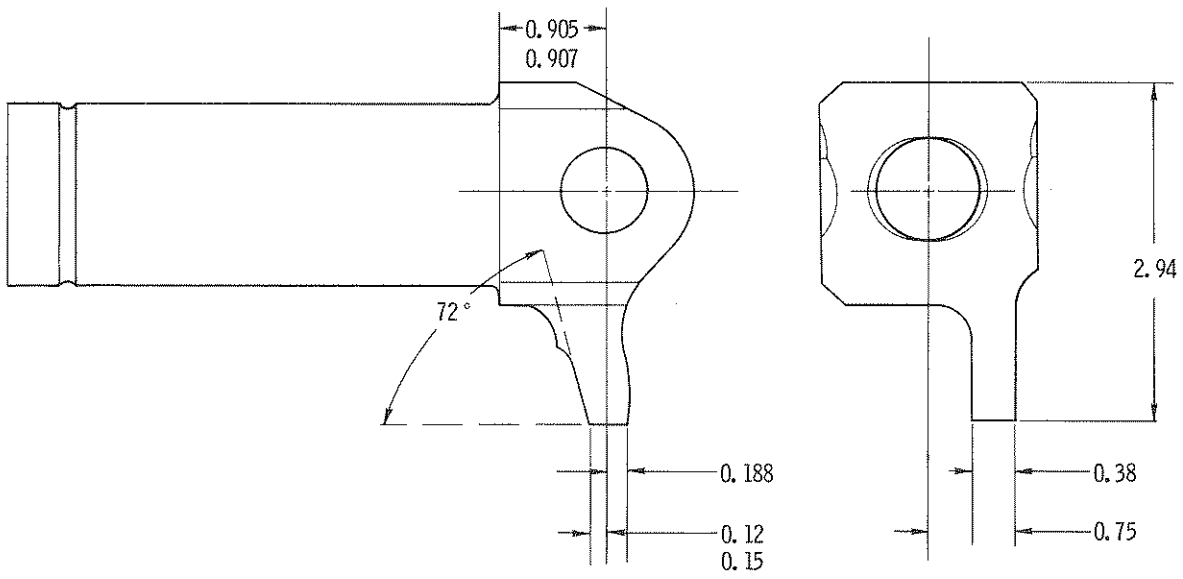

Figure 1. Pitch Bearing Shaft
3. Visually and dimensionally inspect pitch bearing shaft for deformation or damage of droop stop arm. (See Figure 1)
2. Visually, dimensionally and dye penetrant inspect pitch bearing case pitch control arm for deformation; inspect bearing case for damage, paying particular attention to lead-lag bearing yoke. (See Figure 1)